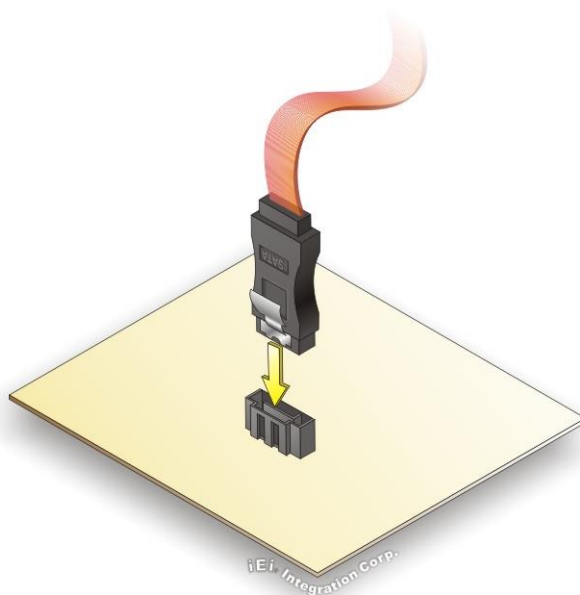

Figure 4-19: SATA Drive Cable Connection
Step 2: Insert the cable connector. Insert the cable connector into the on-board SATA drive connector until it clips into place. See Figure 4-19.